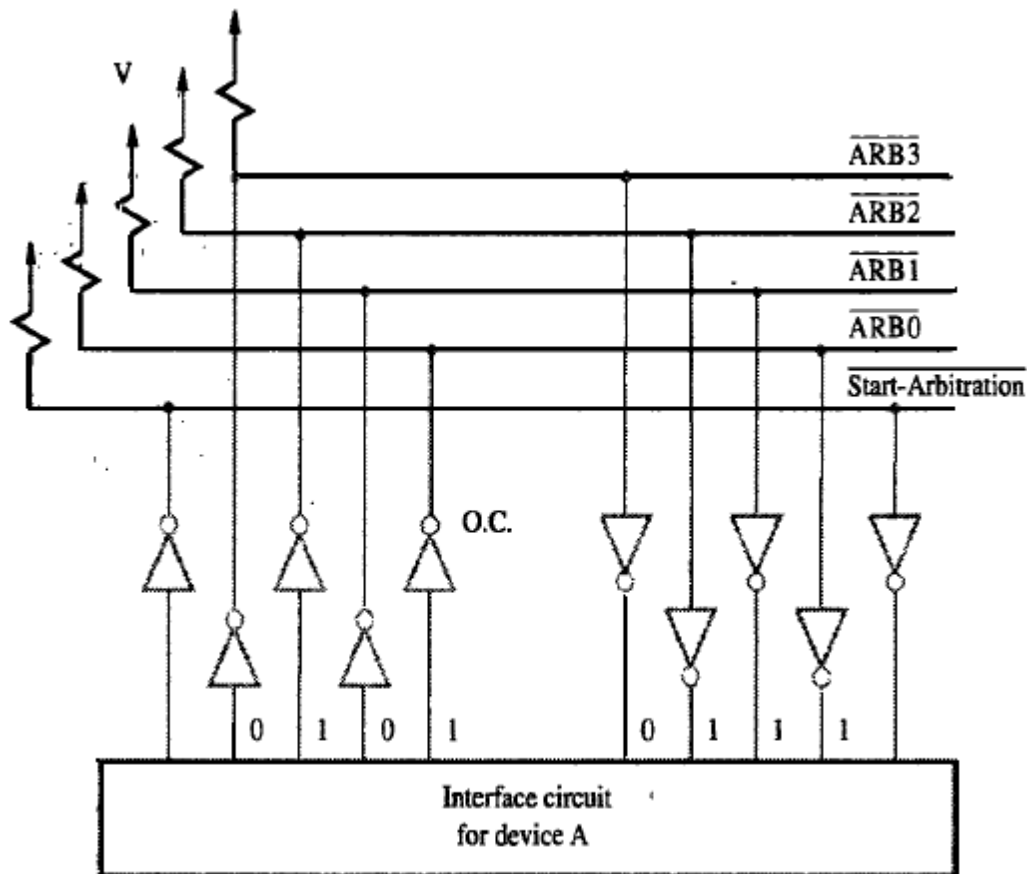

Figure 4.22 A distributed arbitration scheme.
- All device participate in the selection of next bus-master (Figure 4.22).
- Each device on bus is assigned a 4-bit identification number (ID).